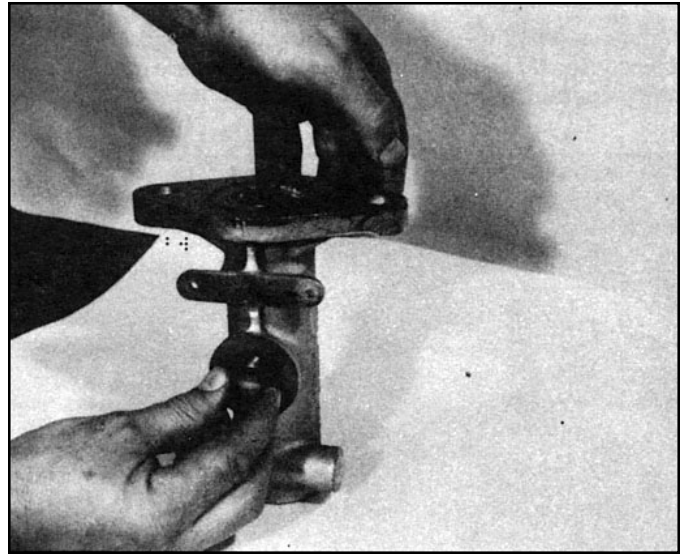

FIGURE 10
7. Carefully insert the spring and piston into the master cylinder body. Making certain not to damage the seal and o-ring. The lip seal and o-ring must enter the body last. Depress and hold the piston by inserting a dull object into the recess in the end of the piston. Piston actuator lip should be completely past the compensating TRT valve assembly port to allow for proper installation of the compensating valve assembly. Install the compensating valve assembly into the threaded port of the top of the master cylinder. Be sure compensating valve is installed between the two larger diameters on the piston. Torque to 30-40 foot pounds. **NOTE:** The compensating valve assembly should retain the piston assembly in the master cylinder if installed correctly. (See Figure 10.)